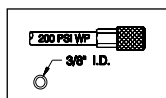

Fig.3
4. Connect the tool to an air compressor using a 3/8" I.D. hose. Make sure the hose has a rated working pressure exceeding 200 PSI (13.8bar) and a female quick coupler. (See Fig. 3)